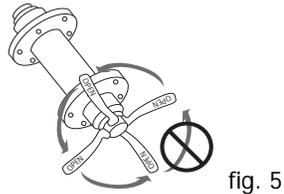

fig. 5
DO NOT TIGHTEN THE QUICK RELEASE MECHANISM BY USING THE QUICK RELEASE LEVER LIKE A WING NUT [fig 5]. DO NOT OVERTIGHTEN THE QUICK RELEASE MECHANISM. OVERTIGHTENING THE QUICK RELEASE MECHANISM MAY DAMAGE THE QUICK RELEASE ASSEMBLY. FOR FURTHER INFORMATION ON CORRECT ADJUSTMENT OF THE QUICK RELEASE TENSION, SEE ADDITIONAL INFORMATION BELOW:
- b. With the quick release lever properly adjusted and closed, it will not be possible to rotate the quick release lever in a circular motion parallel to the wheel as pictured in figure 5 [as opposed to the motion used to open or close the quick release lever].